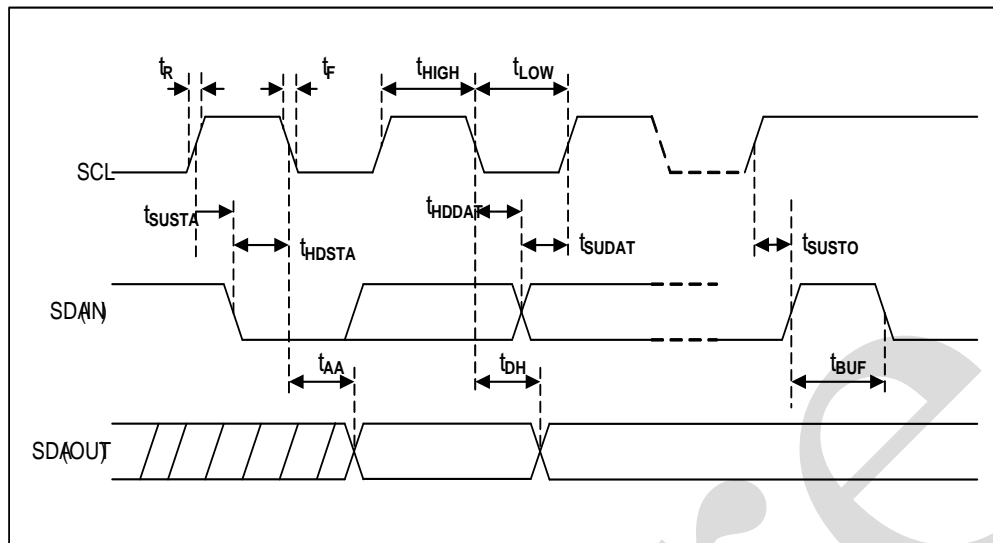

Figure 4-5
4.1.7、Bus Timing(see to Figure 4-5)